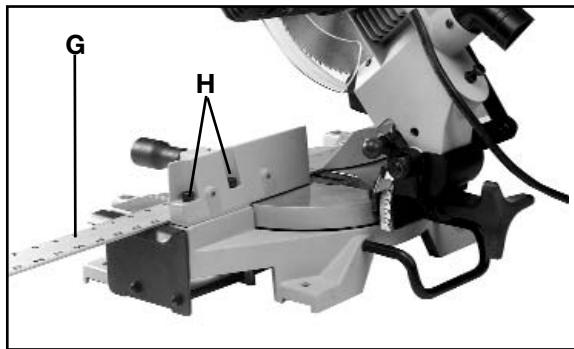

Fig. 29
2. Use a straight edge against both fences (G) Fig. 29 to determine if the two fence halves are parallel. If an adjustment is necessary, loosen fence mounting screws, two of which are shown at (H) and make the required adjustments. Tighten fence mounting screws. **NOTE:** Check to see that the blade is 90 degrees to the fence.